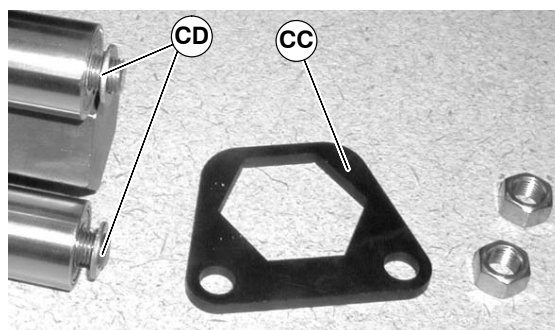

Figure 58
6. Remove support plates (CC of Figure 58) and washers (CD).